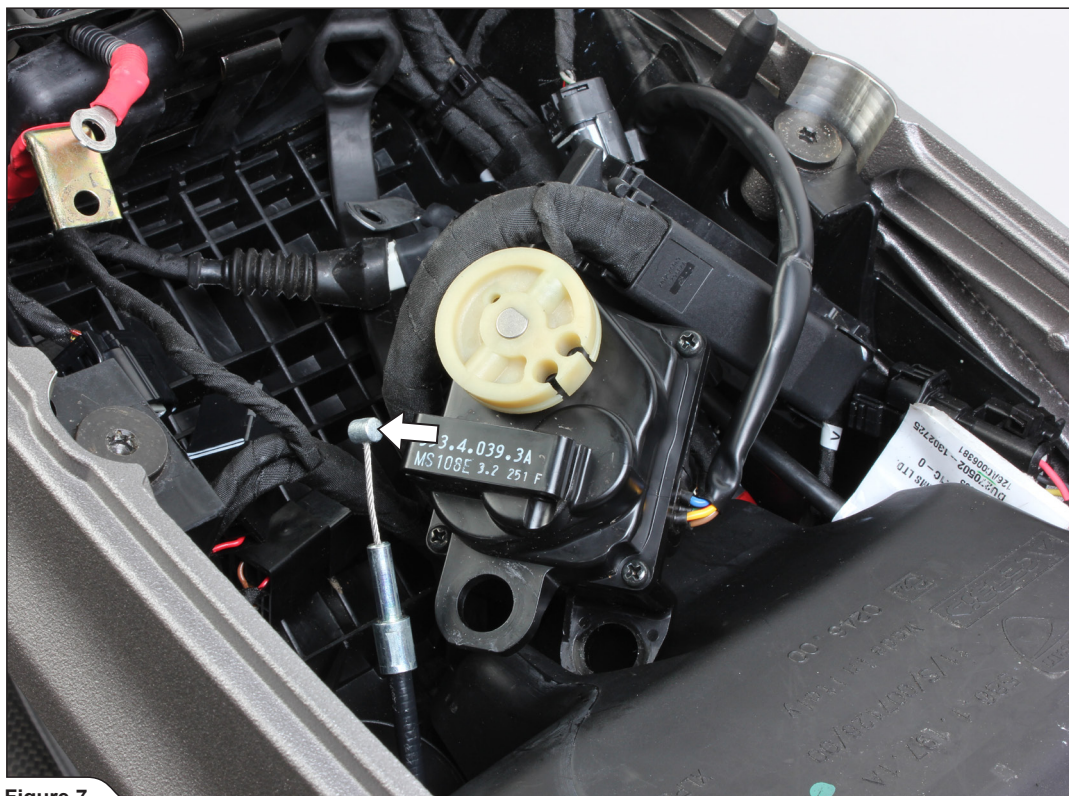

Figure 7
7. Carefully extract the servo motor and remove the cable (**Figure 7**).